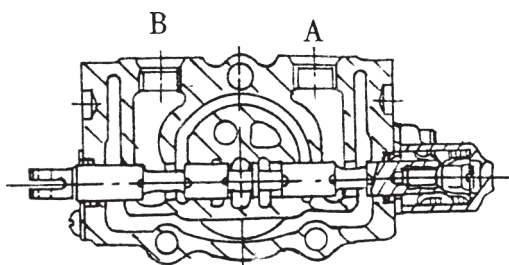

Fig.7.3 Push slide valve
(2) Pushing-in of plunger (See Fig.7.3)